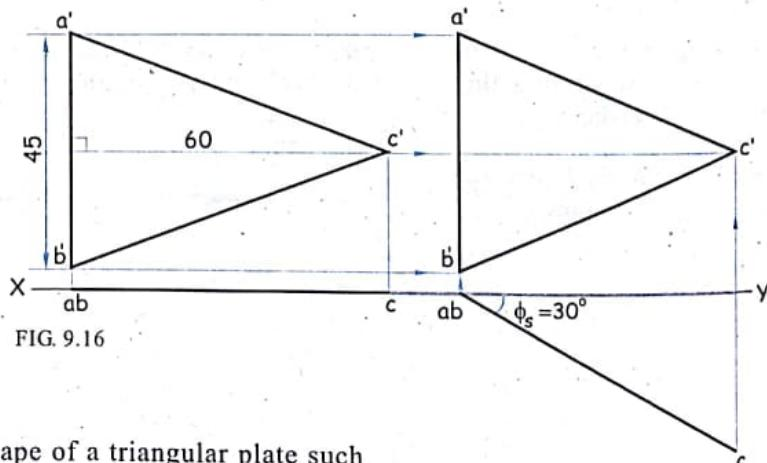

FIG. 9.16
**Solution :** Refer figure 9.16.